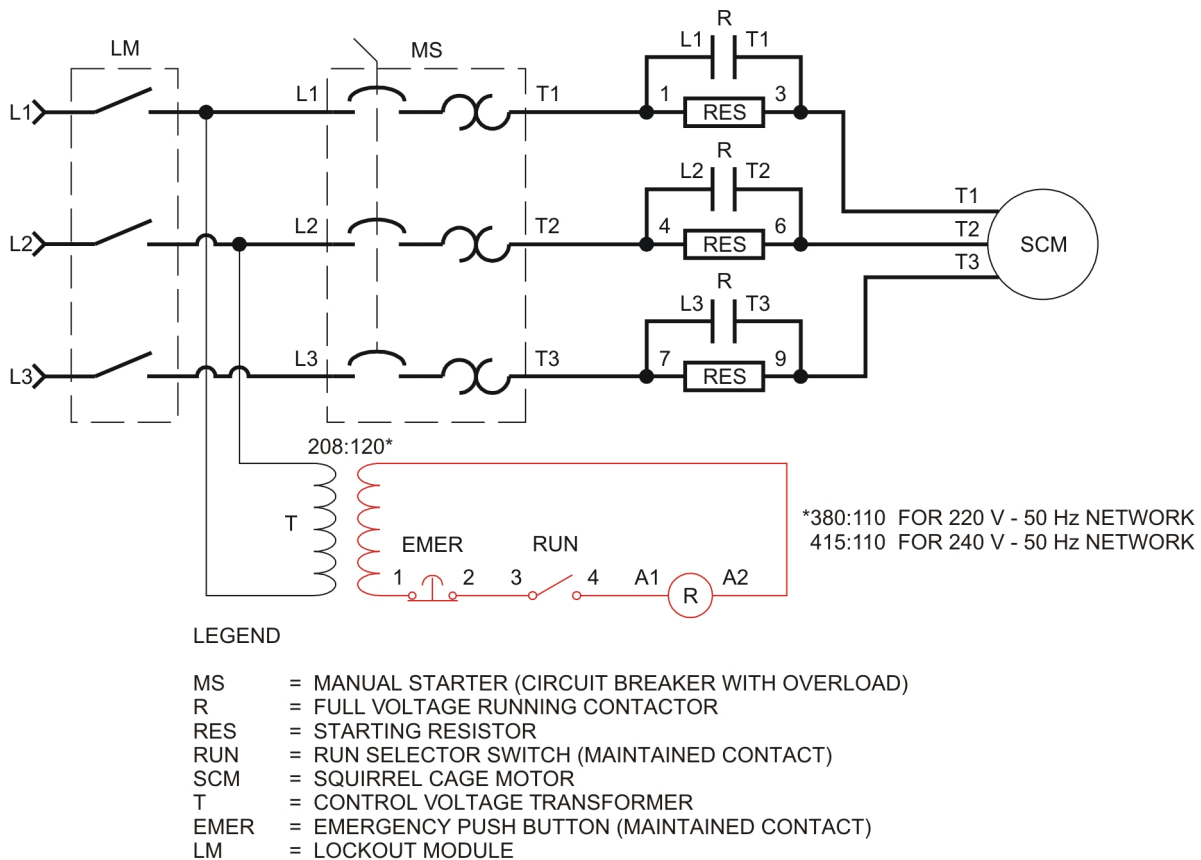

Figure 5-2. Primary resistor circuit.
A typical resistor starter circuit is shown in Figure 5-2. When the Manual Starter is turned on, the resistors are connected in series with the motor. A voltage drop occurs across the resistors and the motor starts on reduced voltage. Once the motor has reached a sufficient speed, the operator shorts the resistors by closing the selector switch commanding the run contactor. The motor is then connected across full line voltage.
- 9. Connect the circuit shown in Figure 5-2. Use the SS-1 contact of the Selector Switches module.